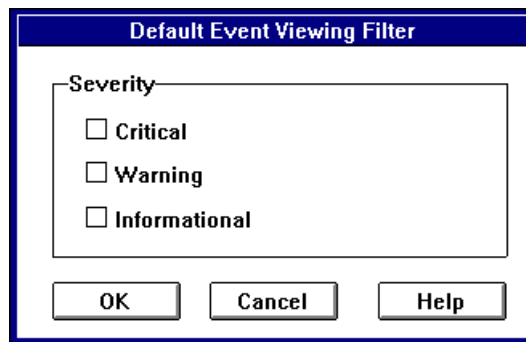

Figure 2-5. Default Event Viewing Filter
- 2 Click **Filter**. The Default Event Viewing Filter dialog box appears, as shown in Figure 2-5.